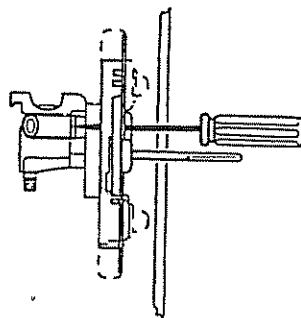

FIG. 5A
- 3) Insert supplied screw driver in hole and **TURN BY-PASS SCREW** clockwise until "bottomed-out" (approximately 1/2 to 3/4 turn). (Fig 5A)